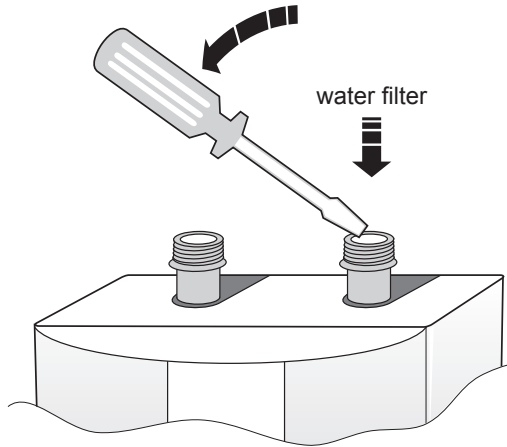

fig. 8
3. Remove the filter (it is advisable to use a small screwdriver – fig. 8)